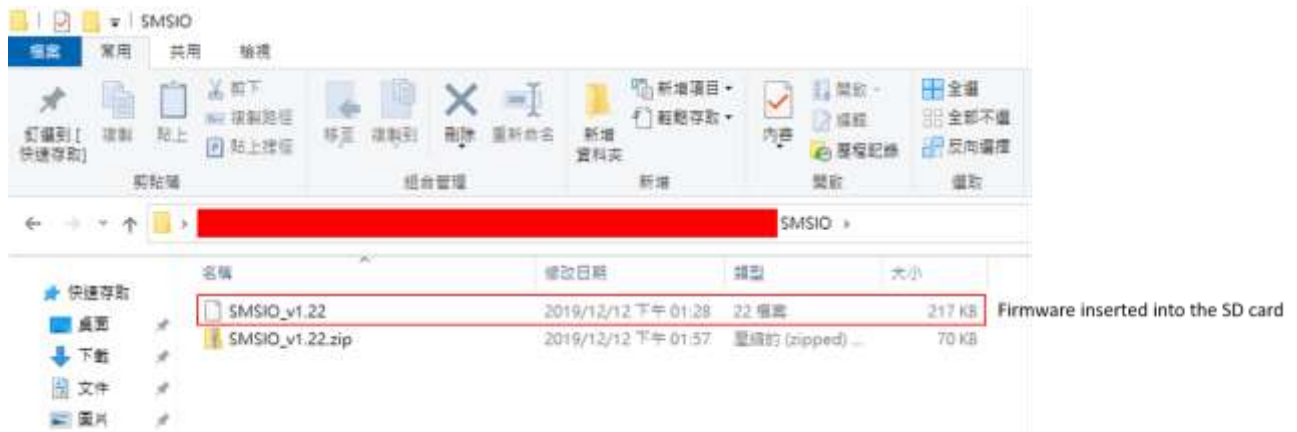

Figure 9.1
- 一、Unzip the firmware folder downloaded from the website to get the firmware into the SD card, as shown in Figure 9.1